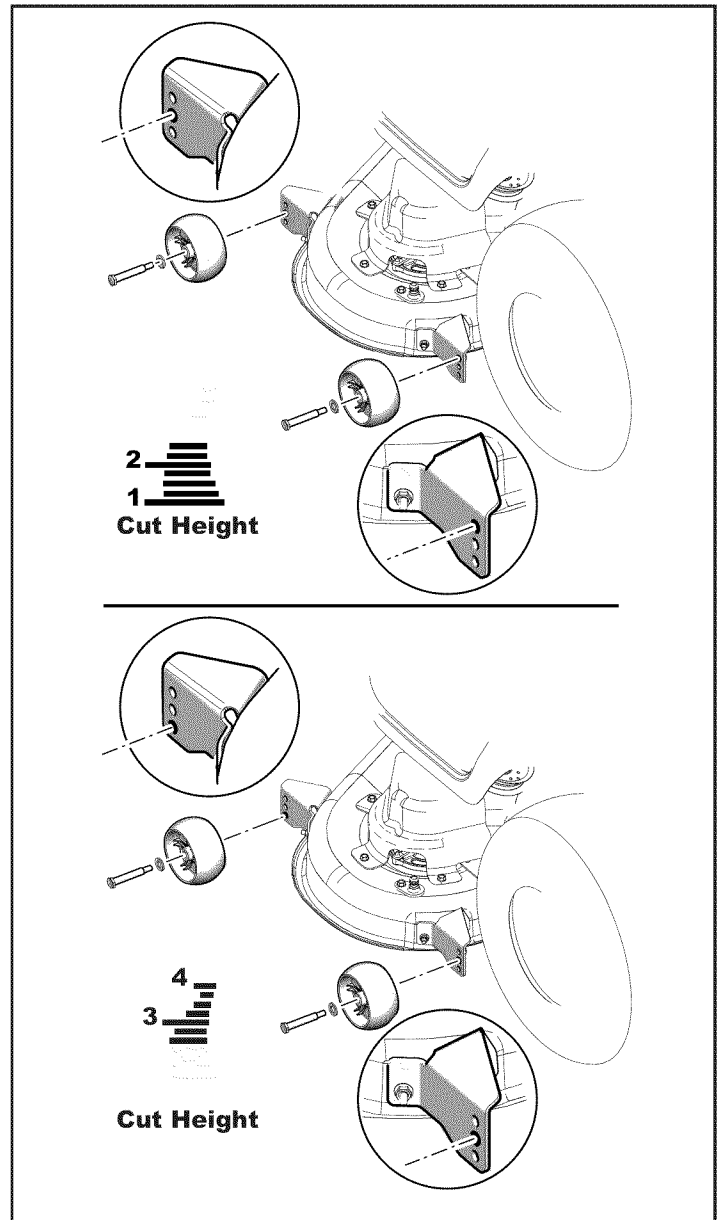

Figure 15
4. Adjust front and rear gauge wheels as needed (see Figure 15).